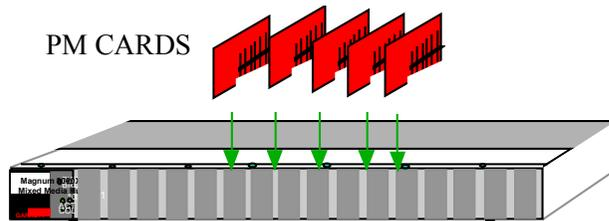

Figure 3.9.2b: Inserting PM Cards into a Magnum 8000X
- Step 3.** Be sure the pins are precisely aligned with the holes in the header, and the PM front panel is guided into the front slot cut-out. Then, slowly and carefully apply enough pressure to insert the PM card's pins into position, see Figure 3.9.2b. (If you **force** the PM down when the pins are not properly aligned with the holes in the header, the pins will become bent and the PM is damaged).